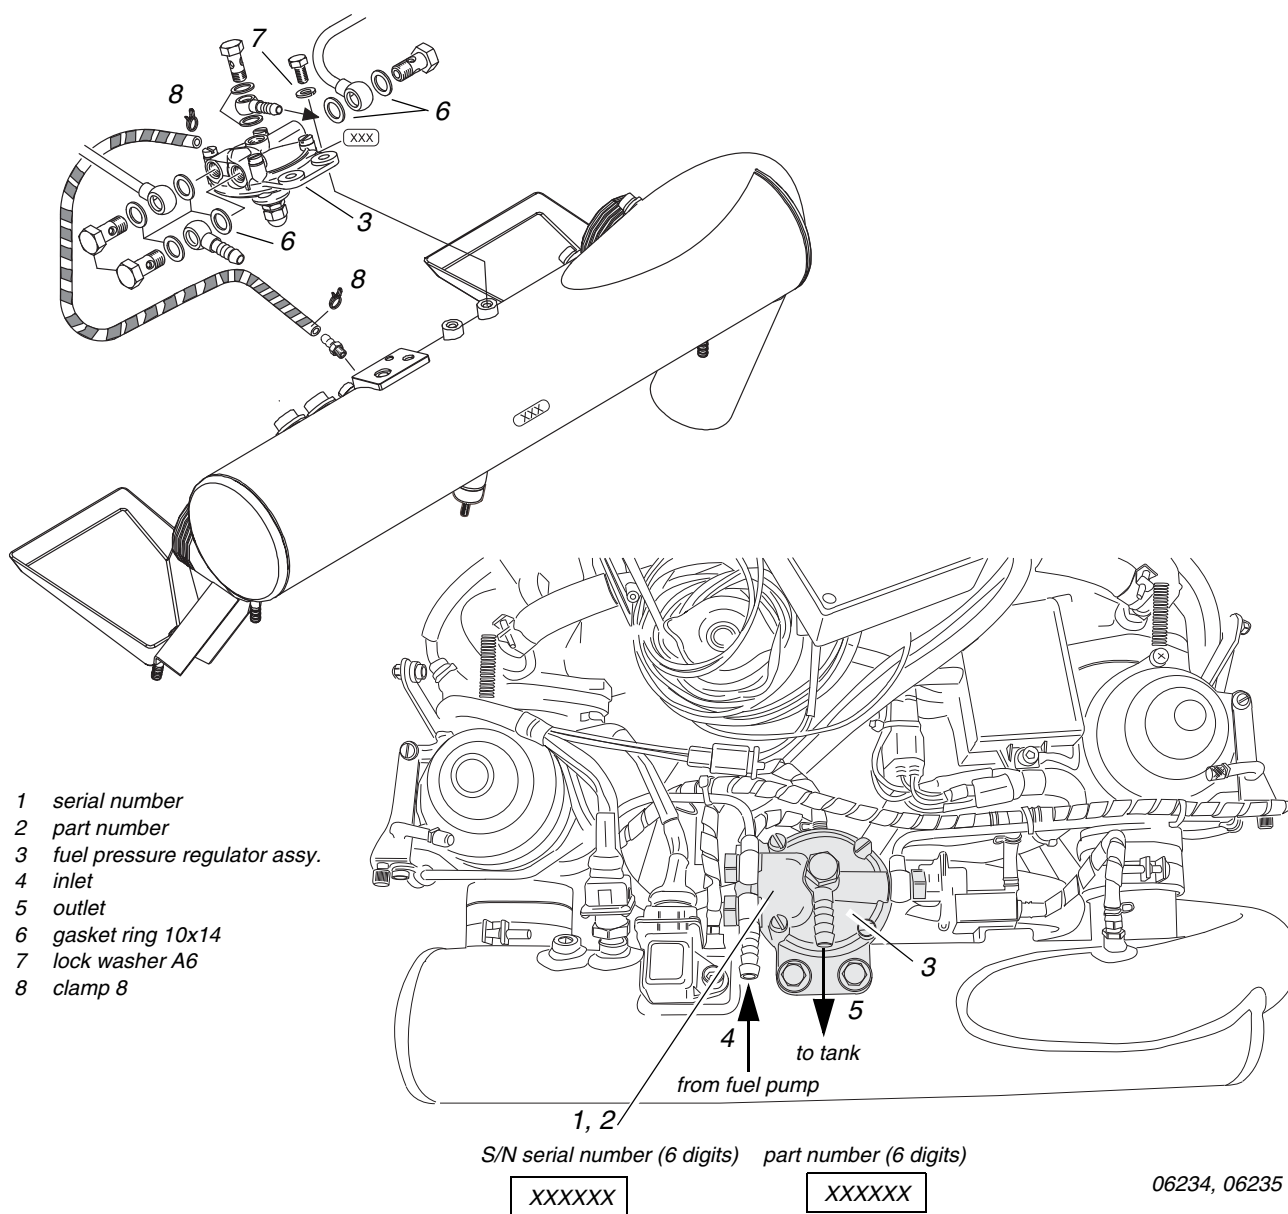

Fig. 1
- ◆ **NOTE:** The corresponding serial number (1) and part number (2) is visible on the flange of the fuel pressure regulator assy. (3) (see fig. 1).
(see fig. 1)